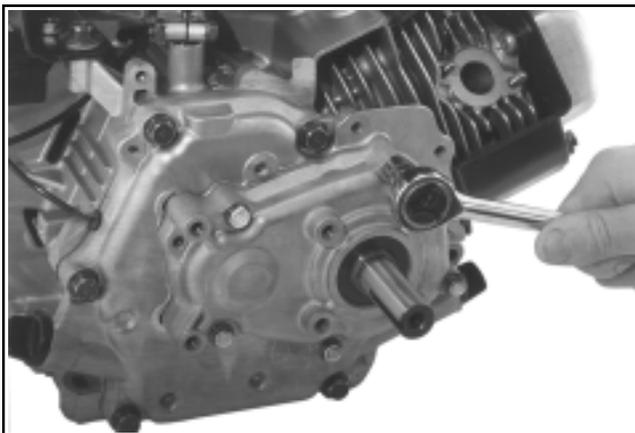

**Figure 9-52. Removing Mounting Screws and Stator.**
- Remove the four hex. flange shoulder screws securing the stator to the crankcase. Remove the stator and pull the wires through the opening in the casting. See Figure 9-52